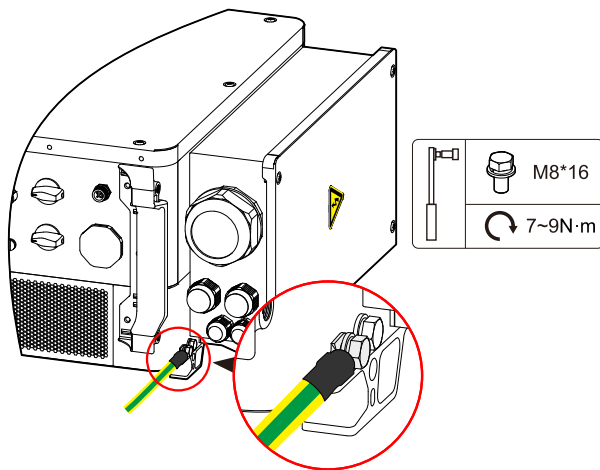

Figure3-27 External grounding connection
- Step 2 Connect the crimped grounding wire to the external grounding terminal at the bottom of the inverter, as shown in Figure3-27.